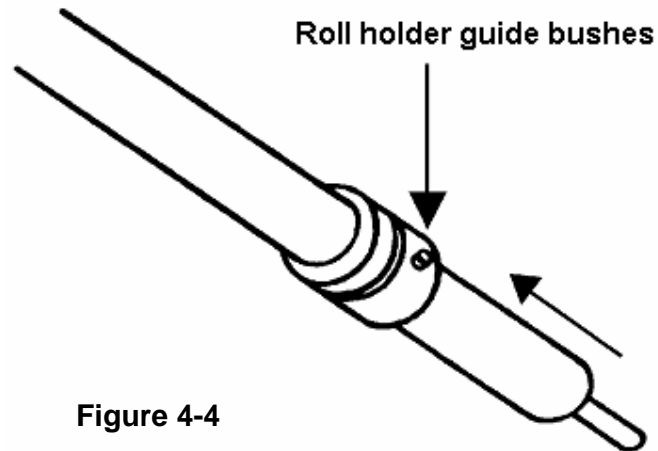

Figure 4-4
1. Firstly, put the roll holder guide bushes on two roll holders. (Figure 4-4)